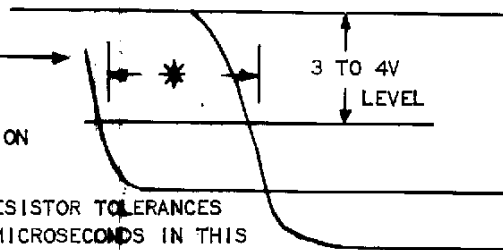

FIGURE 5
- B. SET VM AT ZERO AND ADJUST DECADE BOX #2 TO OBTAIN FIGURE 5.
- C. TURN VM POSITIVE UNTIL PULSES STOP SHIFTING WITH RESPECT TO EACH OTHER. (SHOULD BE APPROX. 15V). REDUCE VM ONE VOLT AND ADJUST DECADE BOX #1 TO OBTAIN FIG. 5.
- D. REPEAT B AND C UNTIL TRACKING MEETS FIGURE 5 AT ANY POINT WHILE VM IS SWEPT FROM PLUS 14V TO -11V. (NOTE: SEPARATION AT +15V IS SET BY FORWARD CLAMP AND DECADE BOXES CANNOT CHANGE THIS).
- E. SCOPE CHANNEL A ON 30 OF MASTER, B ON 30 OF TEST CARD (BOTTOM POS OF 1SW) AND CHECK TRACKING OVER SAME RANGE. IF PULSES ARE WITHIN 30 μSEC OF MEETING FIGURE 5 THEN REPEAT STEPS B AND C TO BARELY BRING THESE IN AND RECHECK TRACKING ON TERMINAL 4. (IF TRACKING ON 4 AND 30 ARE WIDELY DIFFERENT, A NEW TRANSFORMER IS PROBABLY THE ONLY SOLUTION).
- F. AFTER BOTH PULSES 4 AND 30 ARE TRACKING PER FIGURE 5, READ THE DECADE BOXES AND SELECT RESISTORS PER FOLLOWING TABLE AND SOLDER IN CARD.
G. OPEN OR SET DECADE BOXES ON INFINITE AND RECHECK THAT TRACKING MEETS FIGURE 5 ON BOTH 4 AND 30 OVER RANGE OF +16V TO -11V, EXCEPT CHANGE TIME TO 80 μSEC. ON AN OCCASIONAL CARD, DUE TO RESISTOR TOLERANCES, IT MAY BE NECESSARY TO CHANGE A RESISTOR. USE RULES OF 3B AND 3C.